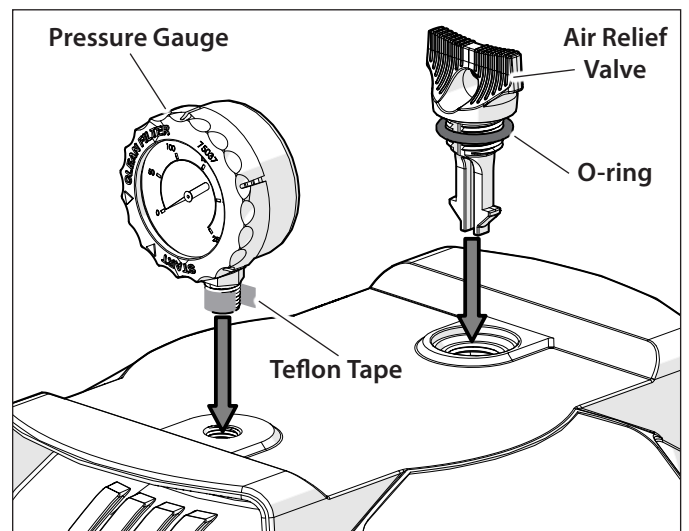

Figure 10. Pressure Gauge and Air Relief Valve Installation
12. Apply Teflon tape (not included) to the pressure gauge and screw into lid where indicated (Figure 10).
13. Install the air relief valve (also known as air bleed valve) into the lid (Figure 10).